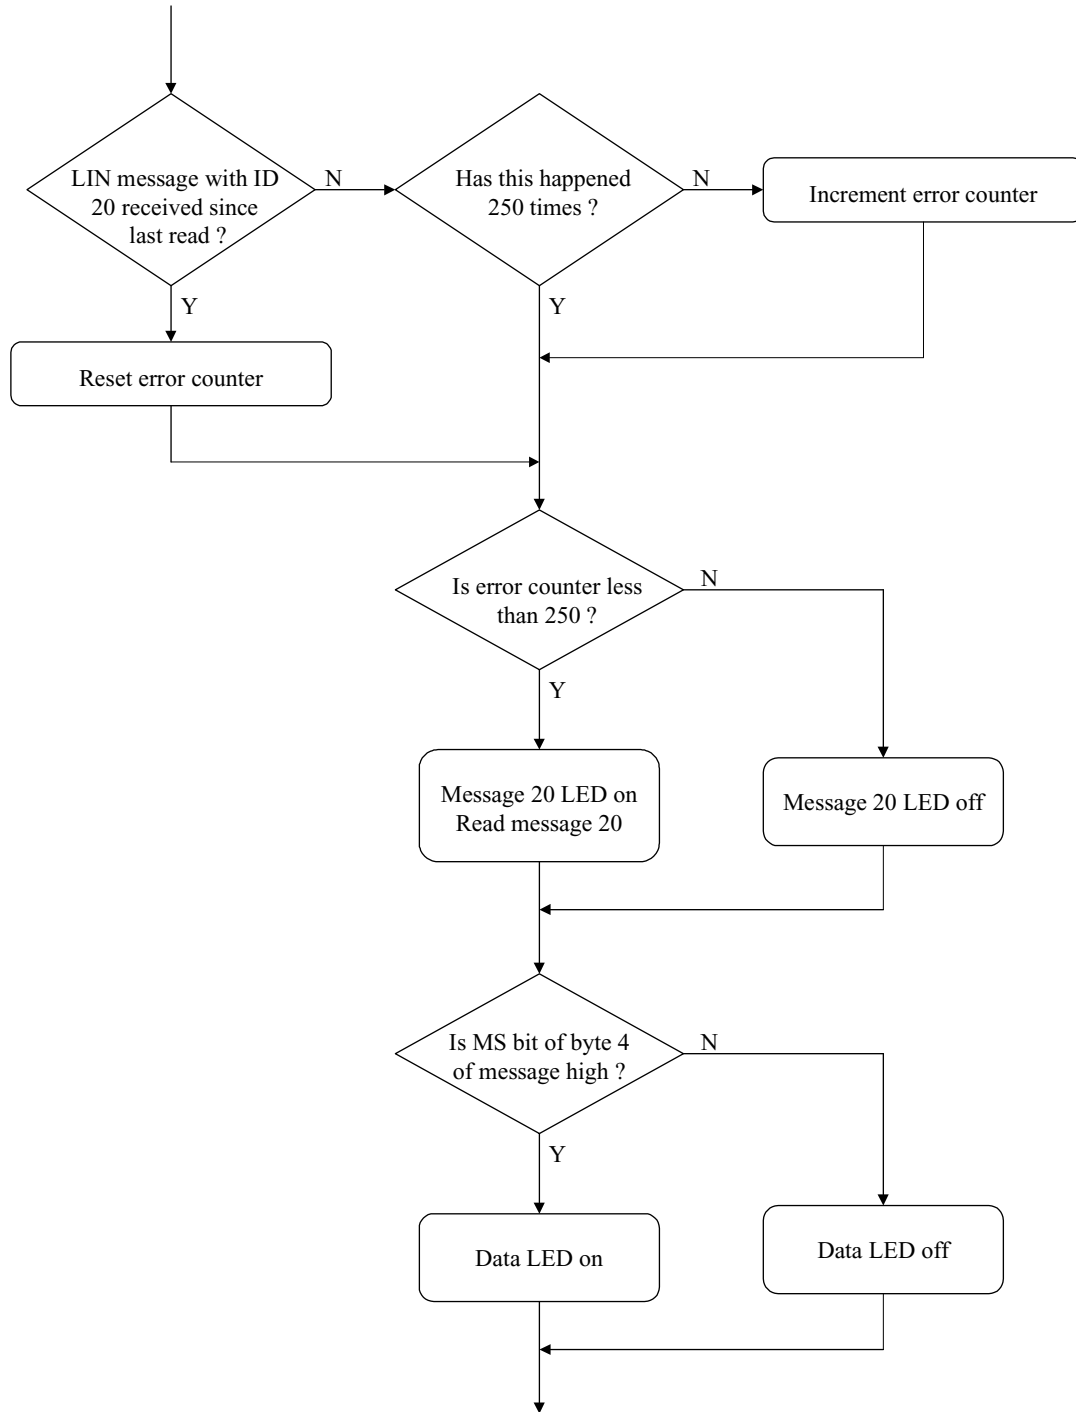
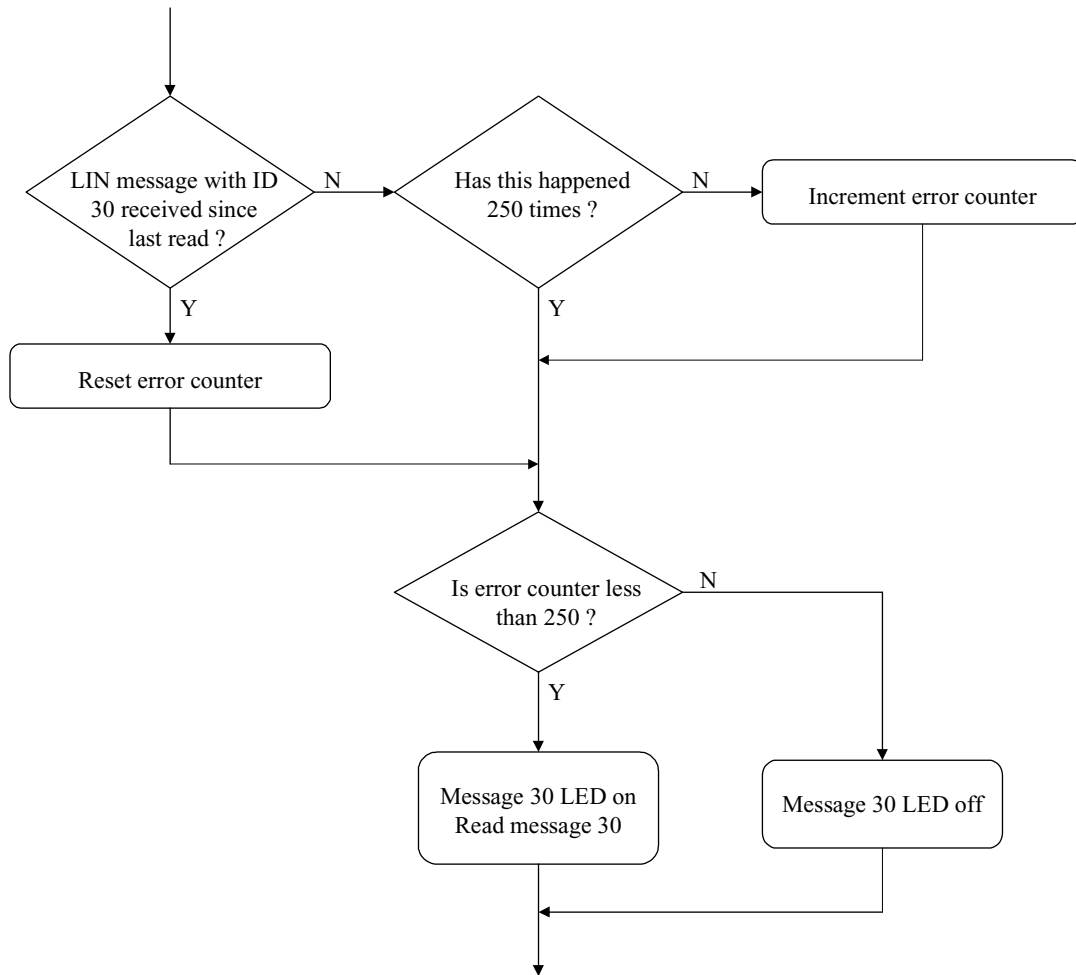

Figure 3. Message 20 Flow Chart
Figure 4. Message 30 Flow Chart
“LIN\_MsgStatus(0x20)” is then used to check for the presence of a message with an ID of 20. The flow chart is shown in figure 3. In this case the timeout is determined by the application software and not by the LIN drivers. The counter value chosen (250) means that the LED will go out if there is no message with this ID for a period of about a second. An ID of 20 was used for the keypad in AN2205 (Car door keypad using LIN, reference [6]). If this message is present then the D7 LED is illuminated. If present, the message is read and D8 indicates the state of the most significant bit in the 4th byte. This is the bit used for the child-lock switch in the keypad application. D6 is similarly used to indicate the presence of a second message with an ID of 30 (figure 4). Clearly this is an arbitrary choice of message IDs and only a single bit of data can be displayed but it does indicate the full functionality of the LIN bus. For example, if the wrong baud rate is used, the bus activity LED will still come on but LEDs D6, D7 and D8 will not.